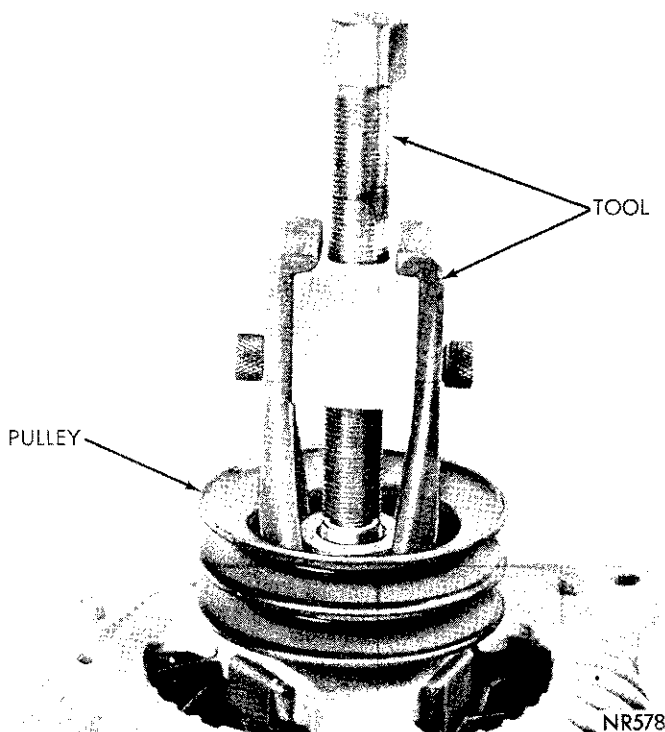

Fig. 17—Removing the Pulley
(5) Carefully apply pressure with tool pressure screw until support tool, rectifier end shield, and remover pin, and remover adapter are in alignment then press the rectifier out of end shield or heat sink.
(6) The pulley is an interference fit on rotor shaft. Remove pulley with Puller Tool C-4068, (Fig. 17).